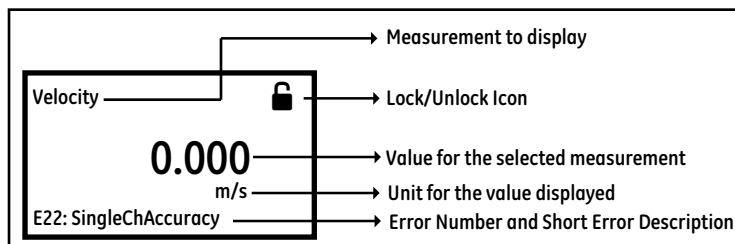

Figure 33: Measurement View
After power up, if the meter's *Measurement View* (Refer *Figure 33*) shows a lock icon  on the top right of the display, use the following steps to unlock the meter from keypad lockout mode.
- Finally, the *Measurement View* (Refer *Figure 33*)
This screen (Refer *Figure 33*) will be referred to as "*Measurement View*" throughout this chapter. User can choose the measurement to be displayed in this view from a list of options. The Error indicator at the bottom left of the display will be blank if the meter has no error.